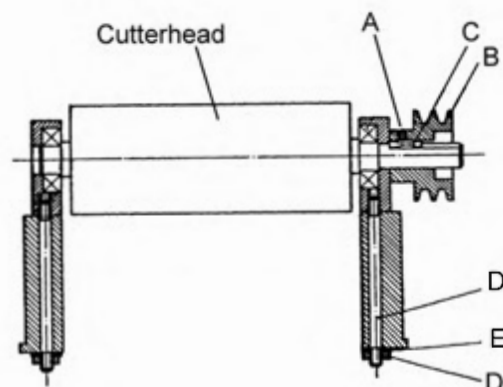

Figure 34
4. Loosen set screw (A, Fig. 34) using a hex wrench and remove the cutterhead pulley (B, Fig. 34) and key (C, Fig. 34).
5. Unscrew hex cap screw (D, Fig. 34) with lock washer (E, Fig. 34) from bearing housing.